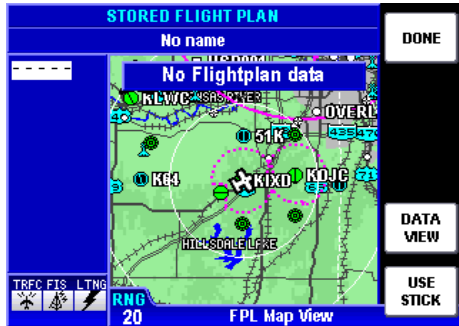

Figure 1-111
2. Press the **NEW FPL** Softkey to display the **STORED FLIGHT PLAN** Page as seen in Figure 1-111. The first waypoint in the flight plan can be entered using the Joystick Pointer and selecting a point on the map or by entering an identifier.